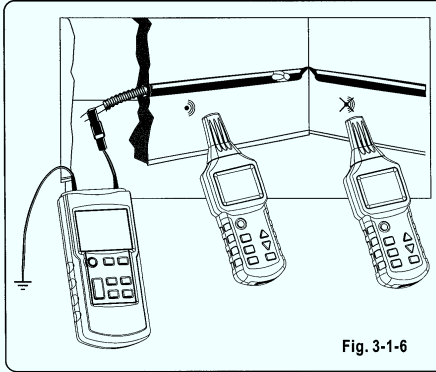

Fig. 3-1-6
- > The transmitter is connected to a metal helical tube (metal tube or flexible conduit) and an auxiliary ground wire, as shown in Fig.3-1-6;